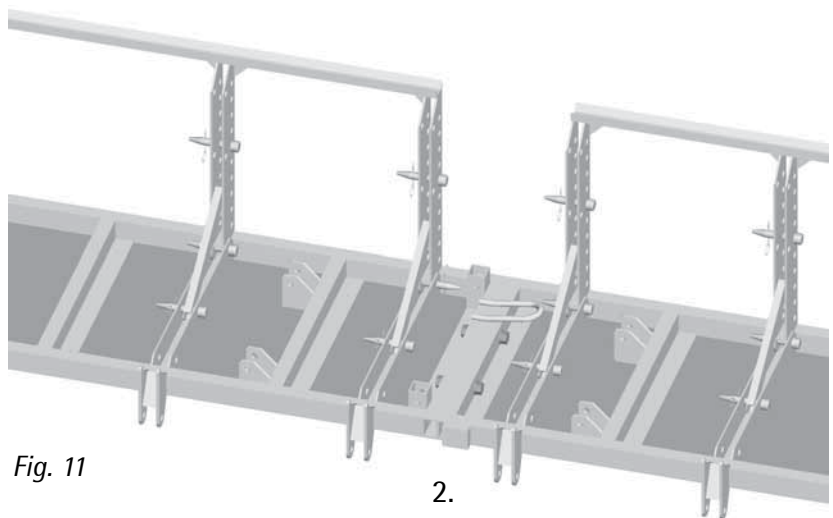

Fig. 11
2. Connect wings (or wings with extension angles) together and tie the upper and lower parts together with **two stacking screws per frame** (Figs. 11 and 12).